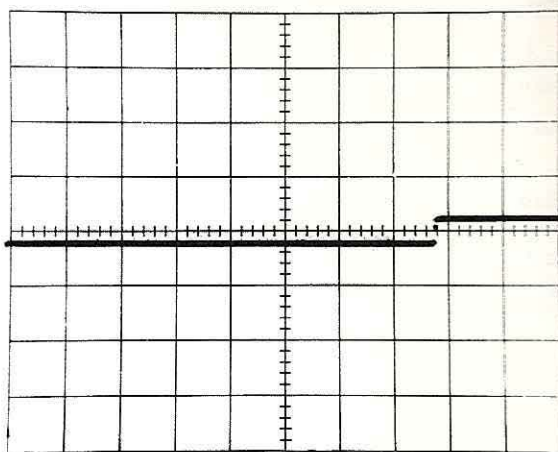

Fig. 7-8. Step Signal from 284 Pulse Generator at .5 V/DIV.
g. The step signal should be like that shown in Fig. 7-8; if not try adjusting the 284 TD BIAS control.